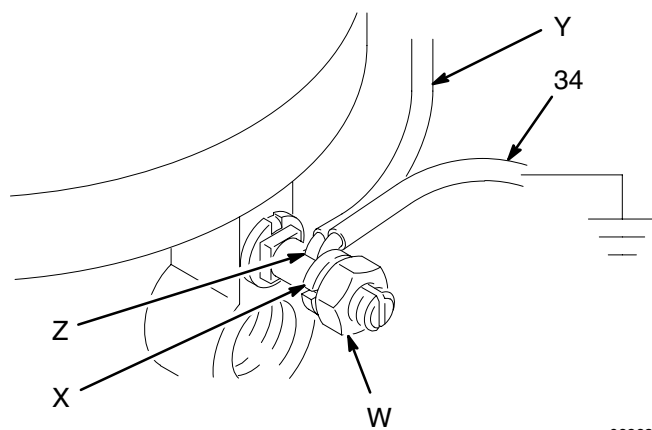

Fig. 1
1. *Pump:* use the ground wire and clamp (supplied). See Fig. 1. Loosen the grounding lug locknut (W) and washer (X). Insert one end of the ground wire (34) into the slot in lug (Z) and tighten the locknut securely. Connect the other end of the wire to a true earth ground.
2. *Electrostatic Spray Gun:* obtain grounding through connection to a properly grounded air supply hose. Use only the Graco Electrically Conductive Air Supply Hose (supplied). Connect the air hose ground wire (Y) and the pump ground wire (34) to the grounding lug as shown in Fig. 1, then connect the other end of the pump ground wire to a true earth ground.